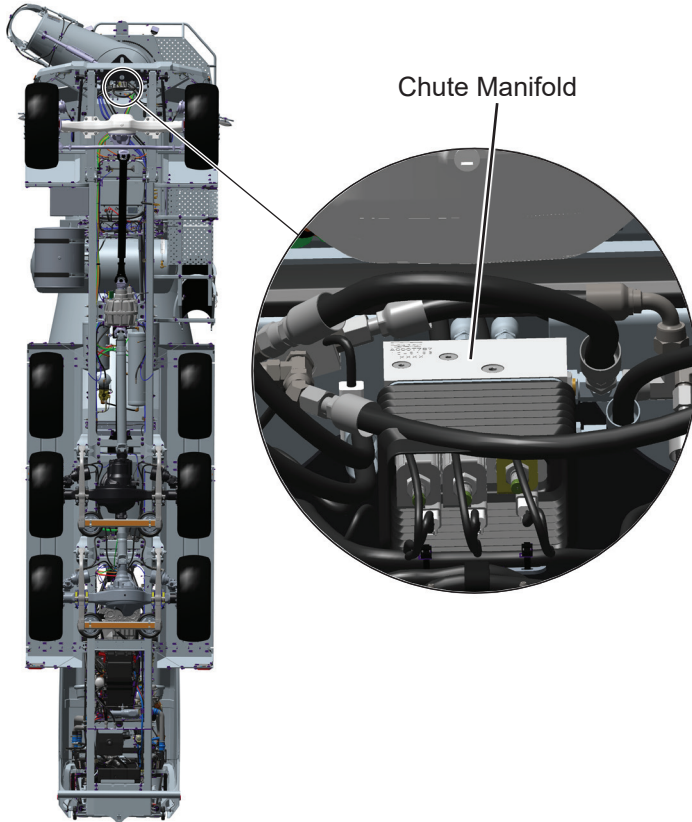

Figure 1. Chute Manifold
3. Locate chute manifold behind the front bumper. See Figure 1.